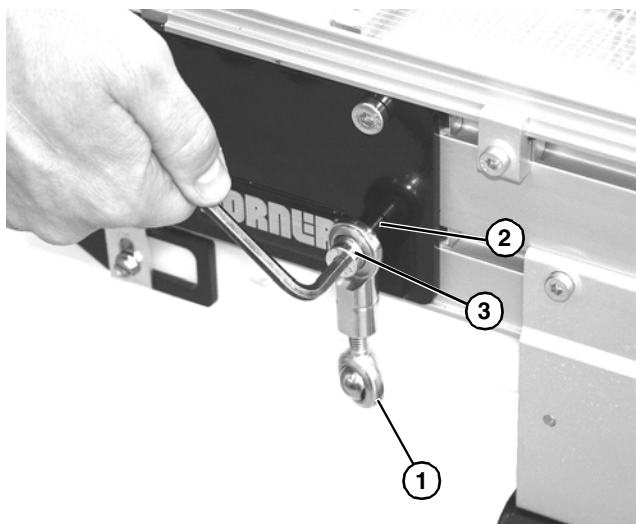

Figure 14
2. Install anti-rotation adjustable rod (Figure 14, item 1) onto conveyor with tube spacer (Figure 14, item 2) and M8 low head screw (Figure 14, item 3).